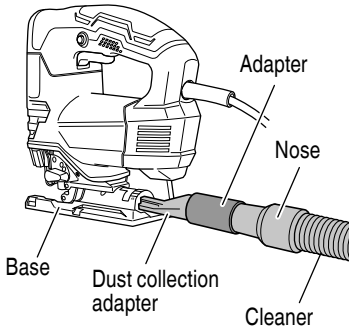

Fig. 22
By connecting with cleaner (sold separately) through dust collection adapter and adapter (sold separately), most of dust can be collected. (Fig. 22)
- (3) Connect the dust collection adapter with adapter. (Fig. 22)
- (4) Connect the adapter with the nose of cleaner. (Fig. 22)